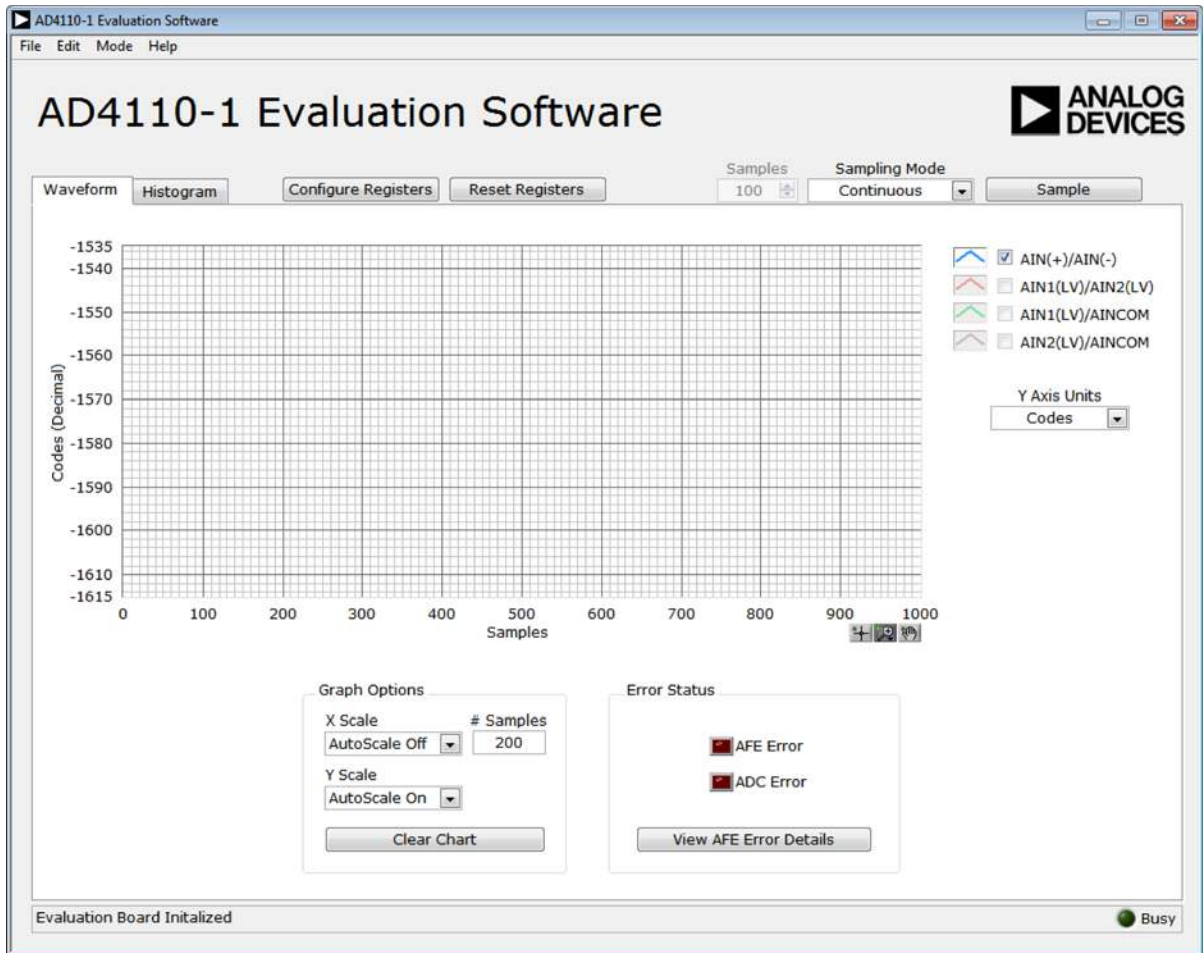

Figure 17. AD4110-1 Evaluation Software Main Window
1. Click **Start, All Programs, Analog Devices, AD4110-1_SDZ**, then **AD4110-1**. The main window of the software displays (see Figure 17).
The main window (Figure 17) shows the significant control buttons and indicators of the AD4110-1 evaluation board software. Using the demonstration modes automatically configures the AD4110-1 device for connection to one of the sensors. The main window functionality adapts to the chosen demonstration mode.